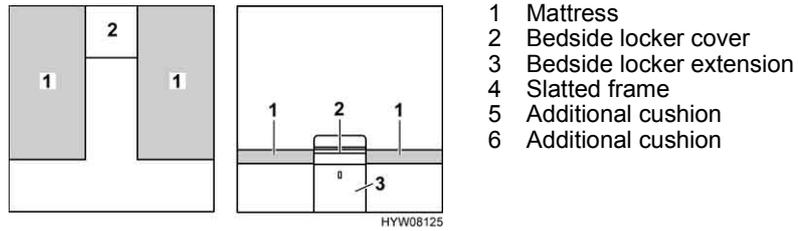

Fig. 83 Prior to conversion
- Remove the bedside locker cover (Fig. 83,2) and put it to one side.